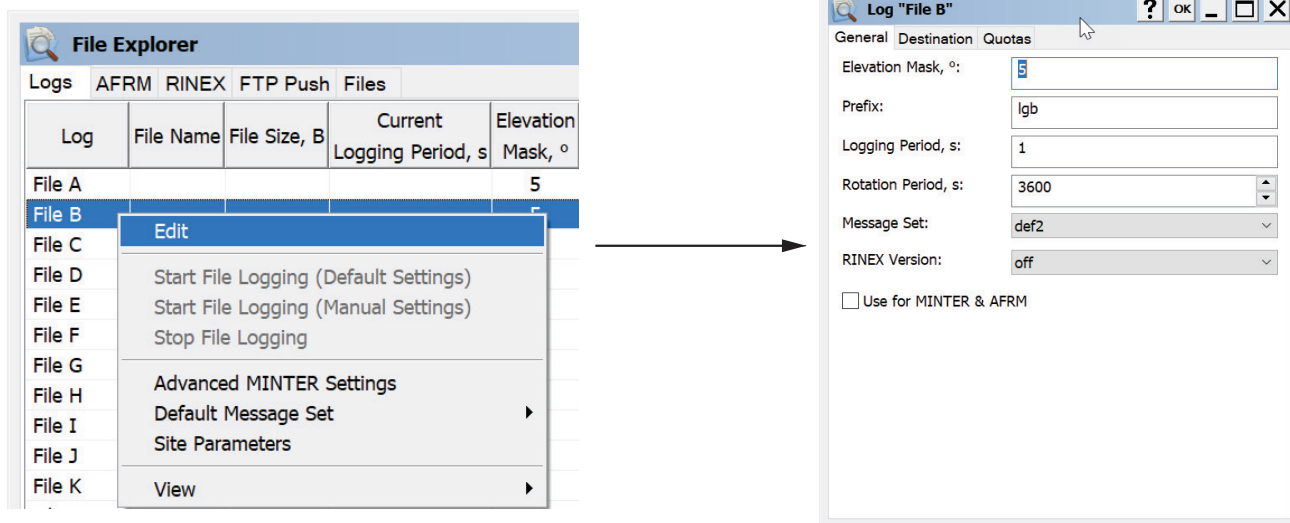

Figure 7-6: Context Menu of Logs Tab
9. To use these log parameters after pressing the MINTER, select **Use** for **MINTER & AFRM** (Figure 7-6).